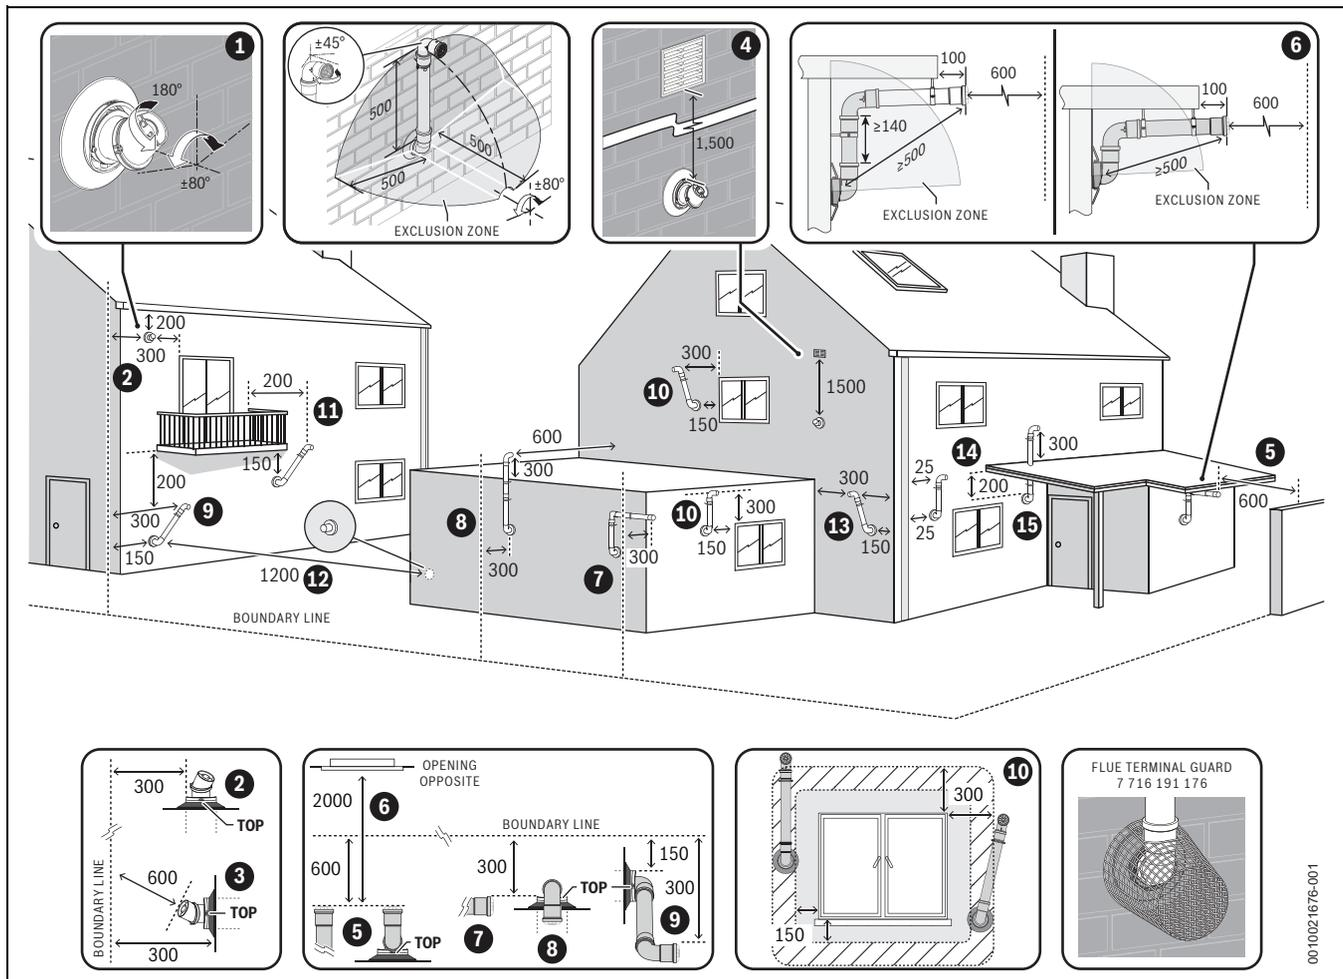

Fig. 39 Plume re-direct and plume management terminal positions
- ▶ Refer to “Horizontal flue terminal positions” for all concentric flue terminal positions unless the flue position is specified in figure 39 “Plume re-direct and plume management terminal positions”.
Key to figure 39